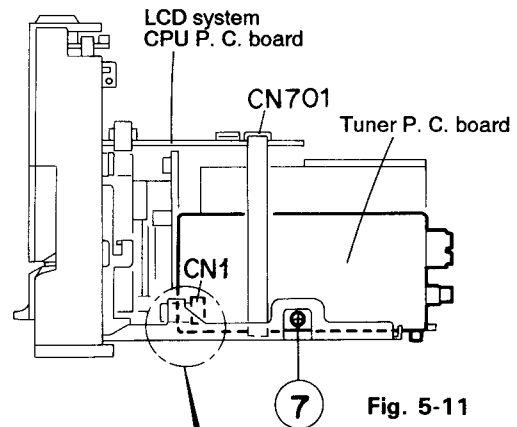

Fig. 5-11
■ Removing the tuner P. C. board (See Fig. 5-11)
4. From the right side of the body, remove the one screw ⑦ retaining the tuner P. C. board.